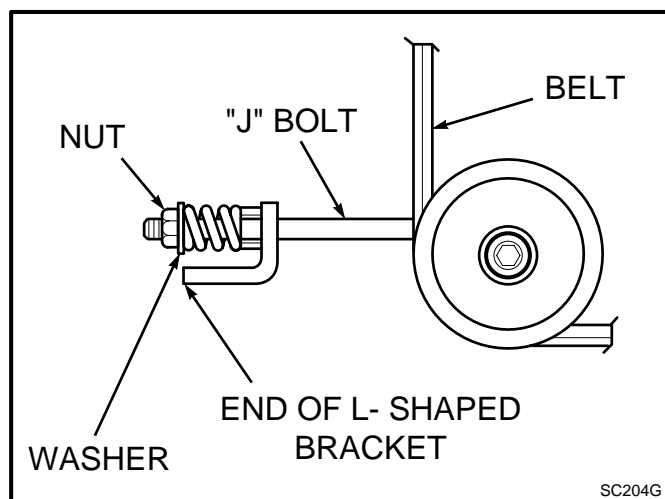

Figure 5
2. To adjust the cutter deck drive belt: Adjust until the end of the spring aligns with the end of L-shaped bracket. (See Figure 5)